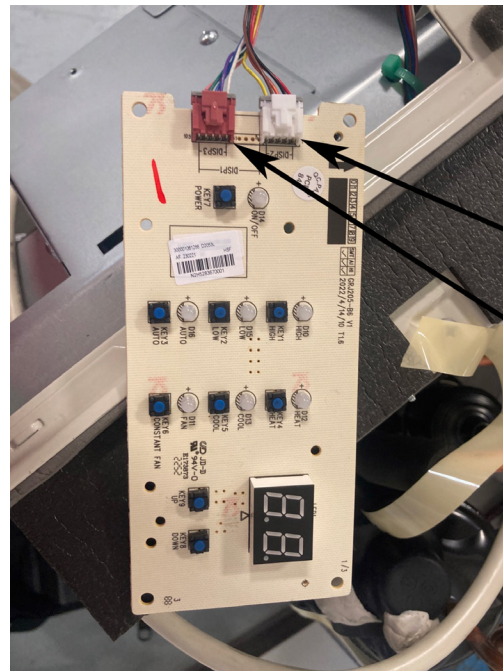

Figure 505
3. Remove Connectors. See figure 505.